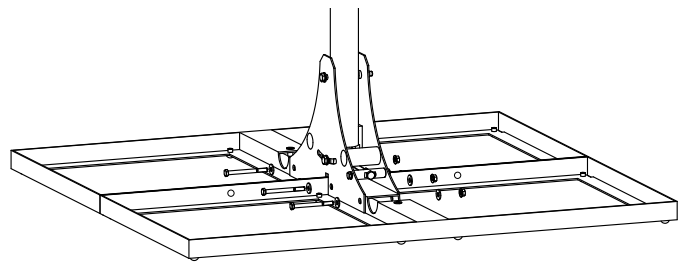

Fig. 3: Attaching the mast foot
2. Place the mast with the tripod onto the two frames so that the openings in the cross-parts of the frames are next to the openings in the mast foot (Fig. 3).
3. Insert 4 screws M8 x90 mm into the openings in the mast foot and into the separating walls (Fig. 3).
4. Tighten the screws with a torque of 25 Nm (Fig. 3).